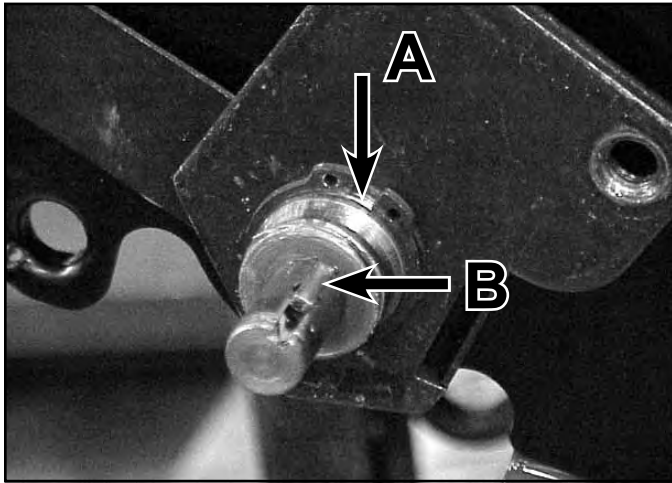

Fig 177
**Note:** There is a spring-loaded key under the pinion (Fig. 177).